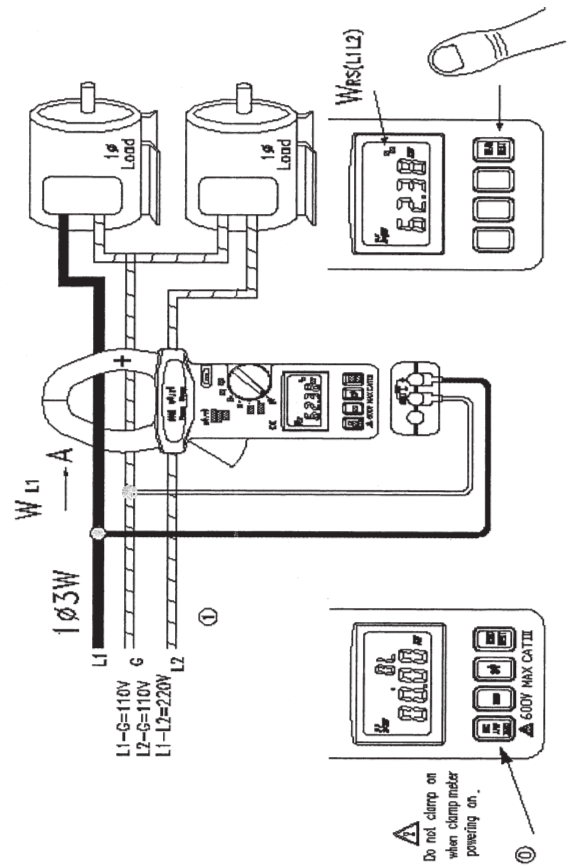

Fig.14
- 3.9.2. Firstly, measure W_{RS} (or W_{L1G}) (refer to figure 14).